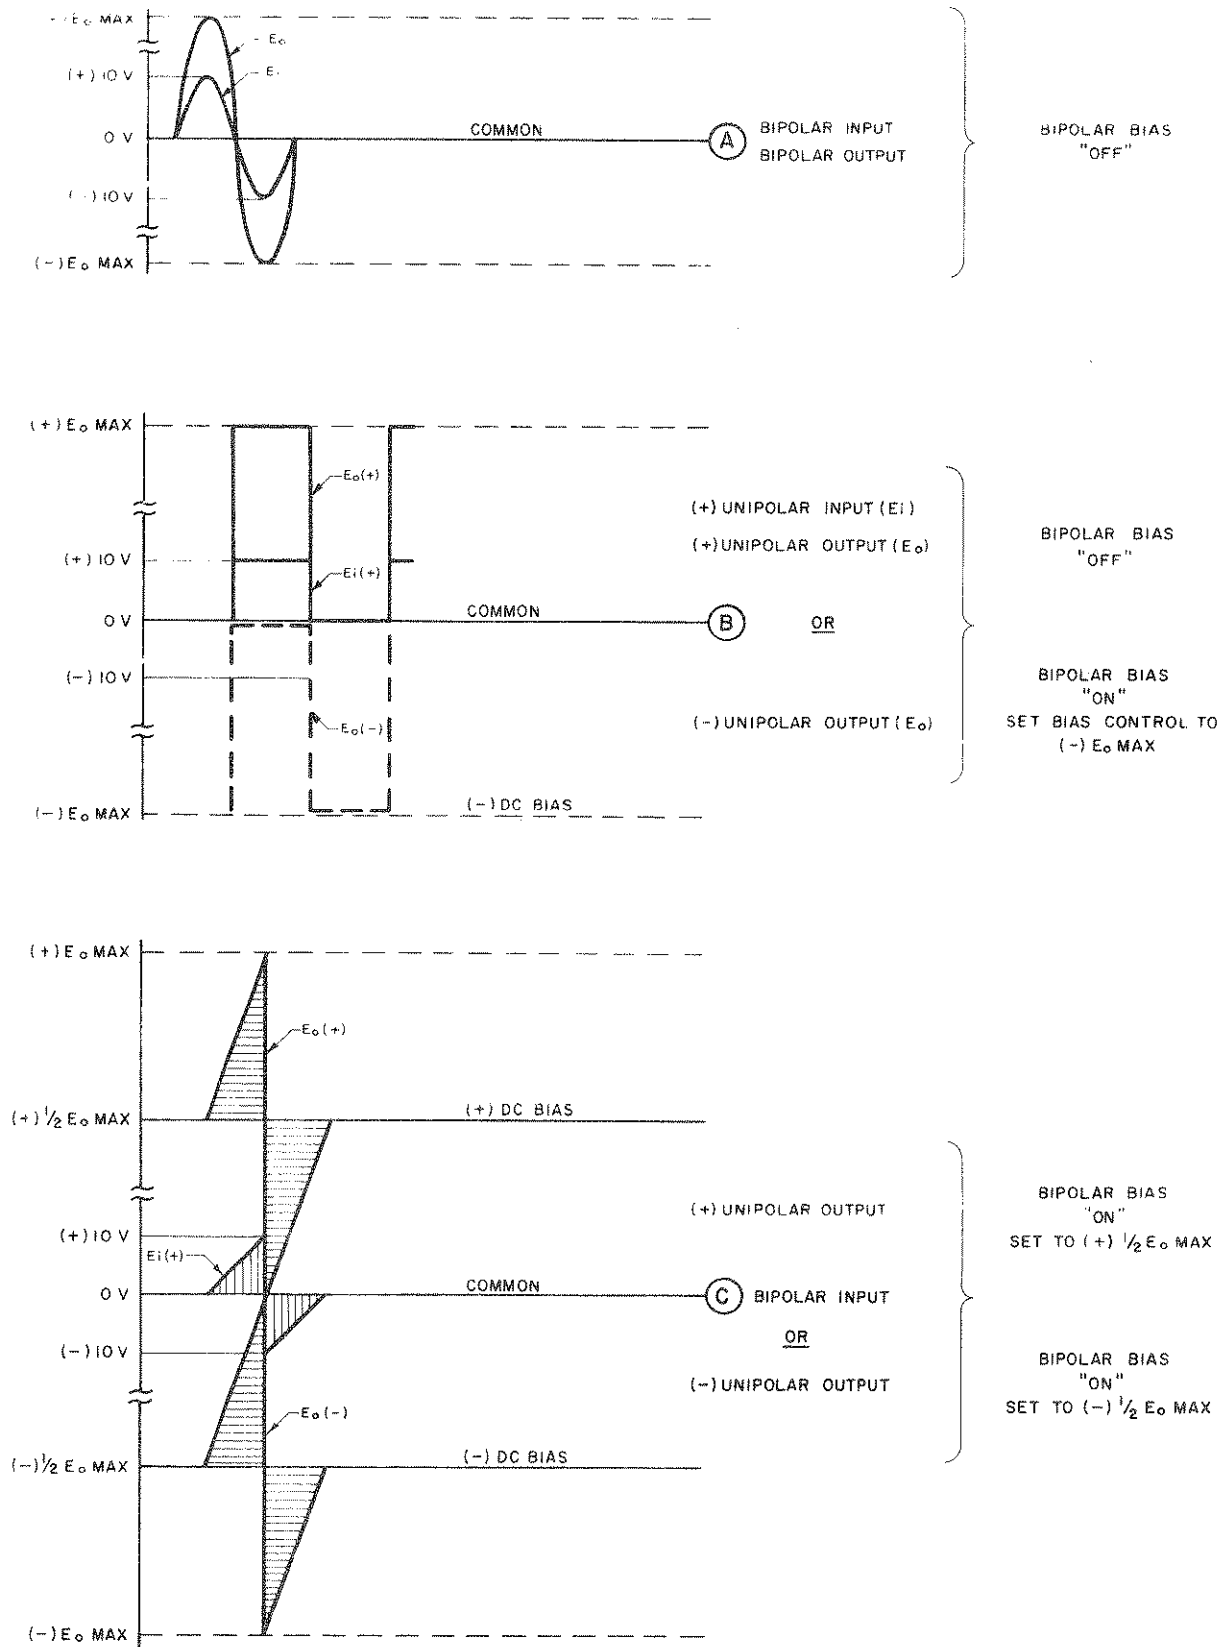
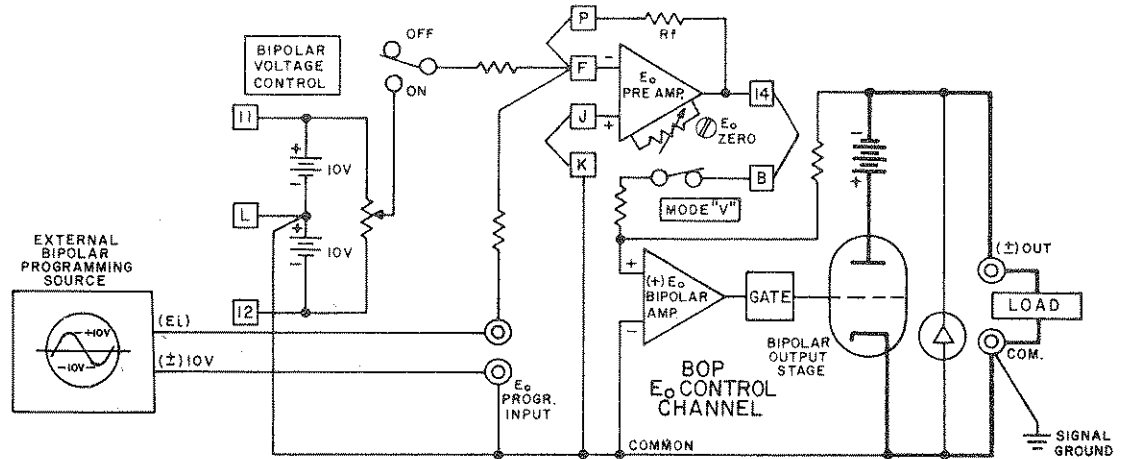

FIG. 3-8 GRAPHS OF POSSIBLE BOP INPUT/OUTPUT WAVE SHAPES
FIG. 3-9 BASIC PROGRAMMING CIRCUIT FOR USE OF THE BOP AS A BIPOLAR AMPLIFIER (VOLTAGE MODE)
- 3-24 The BOP can be used to amplify, sum or scale a variety of waveshapes, some of which are illustrated in FIG. 3-8. All input signals are shown in phase with their corresponding output waveshape. The latter can be readily produced 180° out of phase (i.e. with the output wave taking the exact opposite direction of the input signal) by addressing the non-inverting input of the E_O PRE-AMP instead of the front panel E_O PROGRAM INPUT (Inverting).
- 3-25 The basic programming circuit with which all the wave forms shown in FIG. 3-8 can be produced is shown in FIG. 3-9. Since all input signals in FIG. 3-8 are shown with a ± 10 volt amplitude, the basic programming circuit in FIG. 3-9 must be modified if the external signal source cannot produce 10 volts and if the full BOP output voltage swing is required.